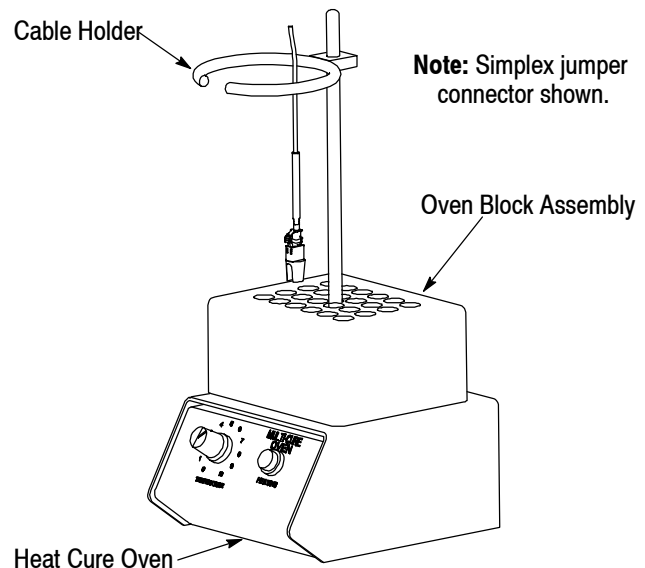

Figure 11
- Place the connector subassembly (with attached cure protector) in the heat cure oven according to the instructions packaged with the oven. Refer to Figure 11. Cure the epoxy between 115° and 120°C [239° and 257°F] for a minimum of 15 minutes.